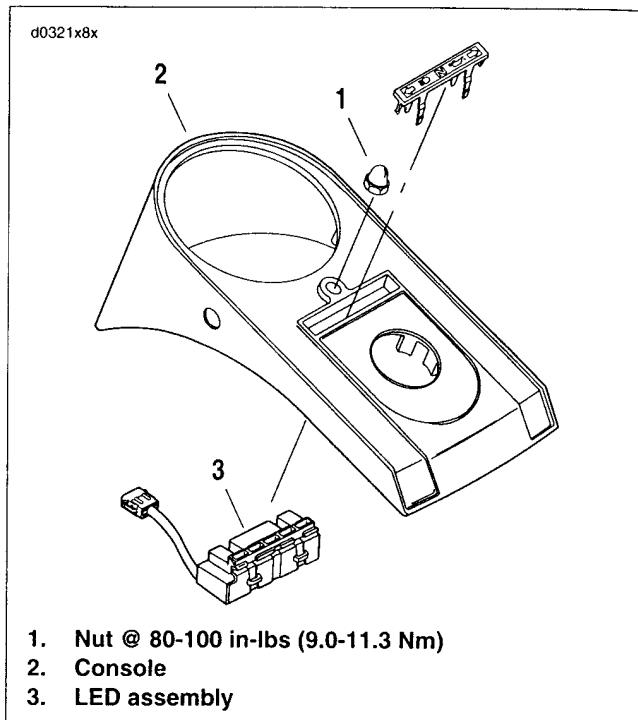
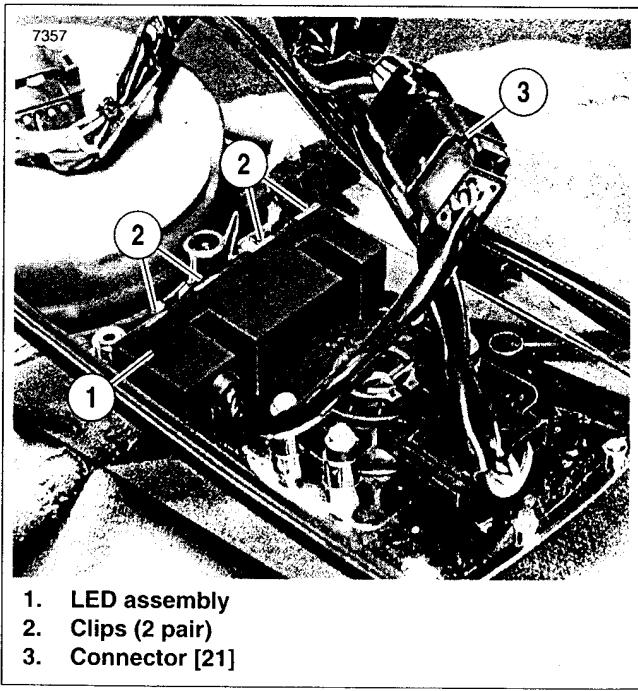

Figure 8-62. Indicator Lamp Assembly: FXDWG
Figure 8-63. FXDWG Connector [21]
1. See Figure 8-62. Remove nut (1) and raise console (2) from fuel tank. Place shop rags on tank and flip console over to expose underside.
2. See Figure 8-63. Squeeze clips together (2) and gently pry indicator lamp assembly (1) out of console from the side with a screwdriver.
3. Disconnect 8-place connector (3) [21] from indicator lamp assembly.
1. See Figure 8-63. Install indicator lamp assembly (1) into console. Make sure clips (2) engage to secure assembly in place.
2. Connect connector (3) [21] to main wiring harness.
3. See Figure 8-62. Place console (2) in position. Tighten nut (1) to 80-100 in-lbs (9.0-11.3 Nm).